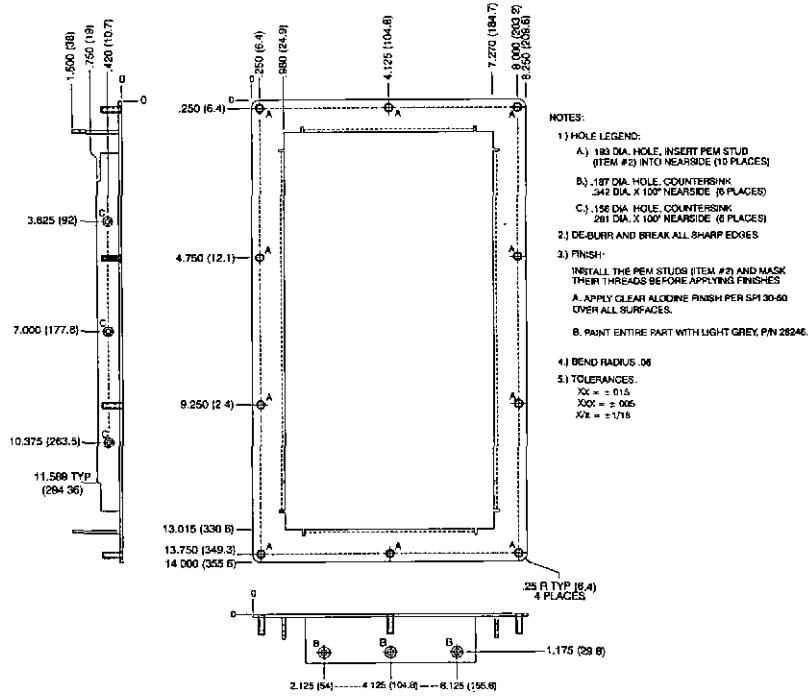

Figure 4 - Front Panel Mounting Bracket, P/N 9336905100
- Front panel mounting bracket, Basler P/N 9336905100. See Figure 4.
(Requires mounting bracket shown in Figure 4.)